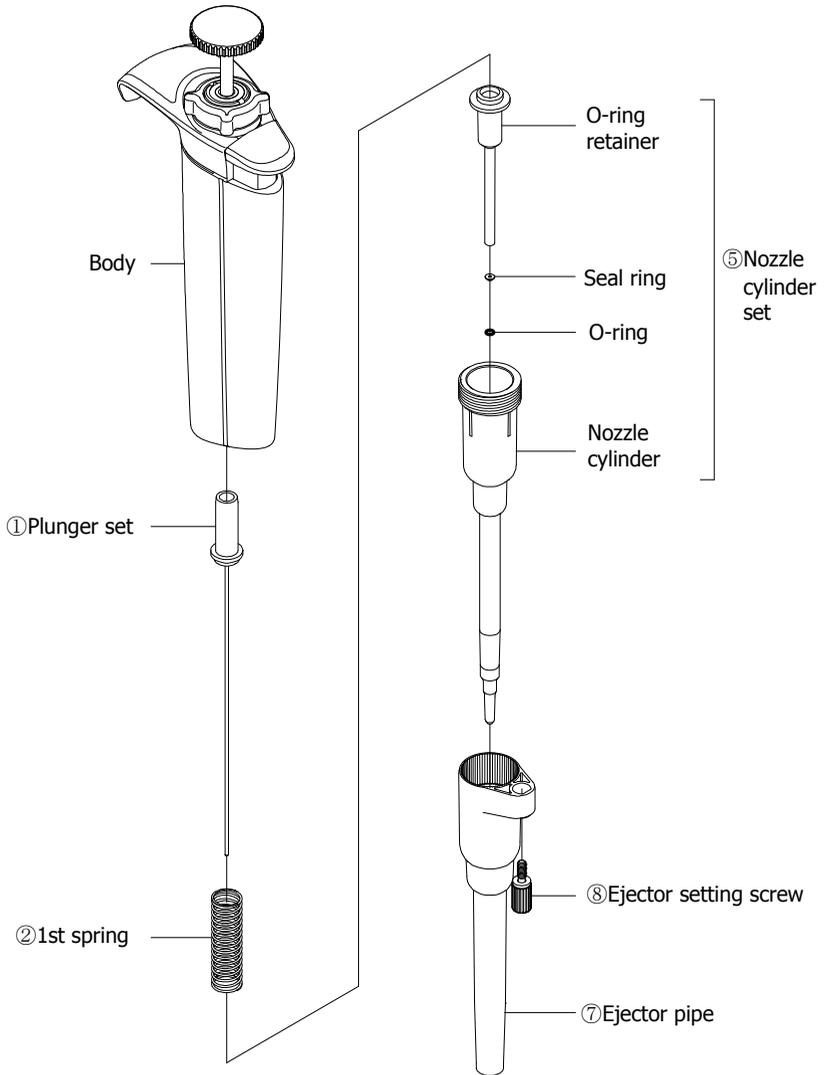
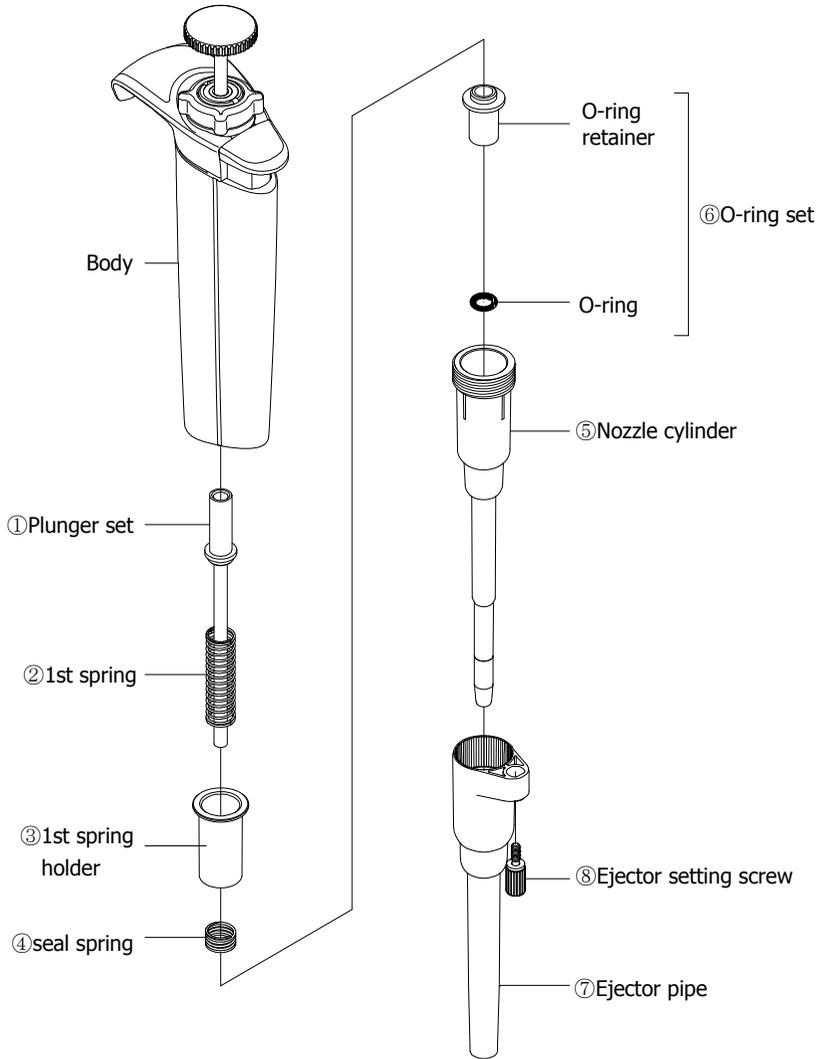
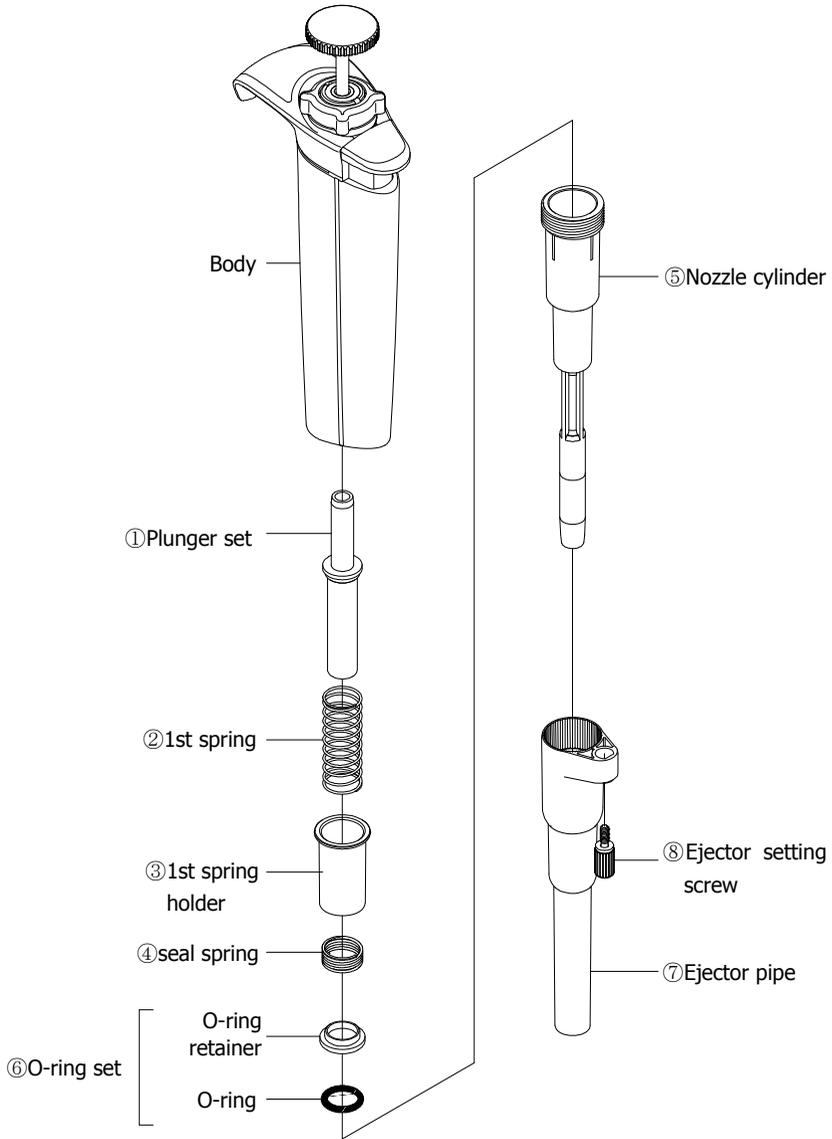

Fig. H1
Fig. H3
Fig. H4
③ Remove internal parts one after another. Fig.H1, H2, H3, H4
- 2, 10uL : Fig H1
- 100uL, 200uL : Fig H3, 1000uL : Fig H4
① Apply grease on plunger set and O-ring if necessary. Refer to Sec. 3 Grease Up.
② Reassemble nozzle cylinder.
100, 200uL: Fig. H3, 1000uL: Fig. H4
③ Fit the ejector pipe to the body.
- 2, 10, 20uL: Fig H1, 100, 200uL: Fig. H3, 1000uL: Fig. H4